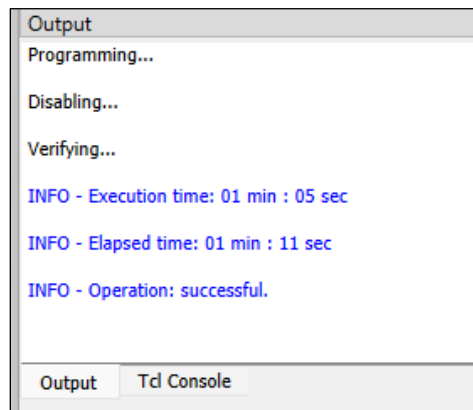

Figure 6.18. Message on Successful Programming
- Verify that the programming status is **Operation: successful** in the output window, as shown in Figure 6.18.